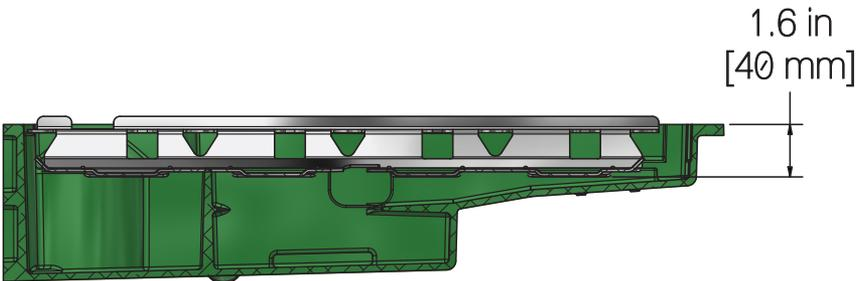

Figure 3 - Minimum Aftermarket Oil Pan Depth
- See Figure 3 to verify the aftermarket pan is deep enough.